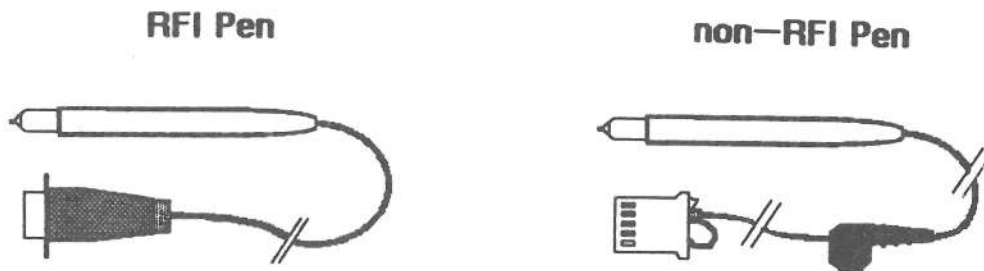

FIGURE 4
2. Connect the RFI Pen (see Figure 4) to the short cable with the white plastic connector. Connect the other end of the short cable to the four-pronged connector on the RFI Interface Card. (See Figure 1.)